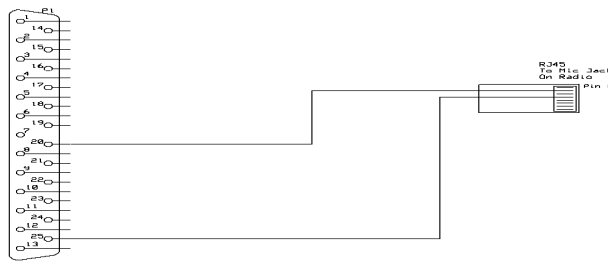

Figure 1
The RC210 provides 7 general purpose outputs (expandable to 32) that you can use to switch electronic devices on and off at your repeater site. While these outputs are buffered by open collector transistors, care should be used so as not to exceed their ratings (90V dc @ 500 ma). If you're switching an inductive load, be sure to use a quenching diode ACROSS it. If you need more logic outputs, you can connect external shift registers and obtain up to 32 outputs. Fig 1 shows how this can be accomplished.
**The RC210 supports the Kenwood single-band mobiles TM-271A (2 meters) and TM-471A (70 cm). Interfacing the necessary serial connections is easy. See Figure 1 above**